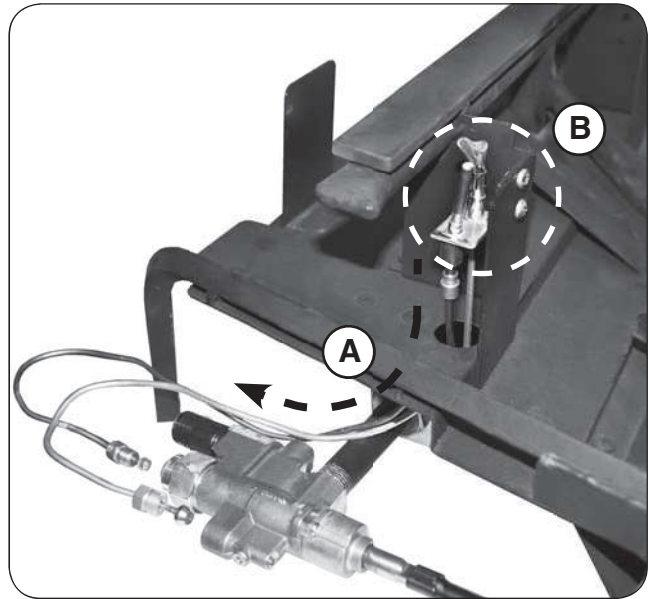

Fig. 10-1 Install pilot assembly
2. The pilot assembly is to be located on the upper left side of the burner. Route the pilot gas supply line and thermocouple lead down through the holes in the burner until the pilot is in place. Use the two burner screws (pre-installed onto the burner) to fasten the pilot assembly in place. See Fig. 10-1.